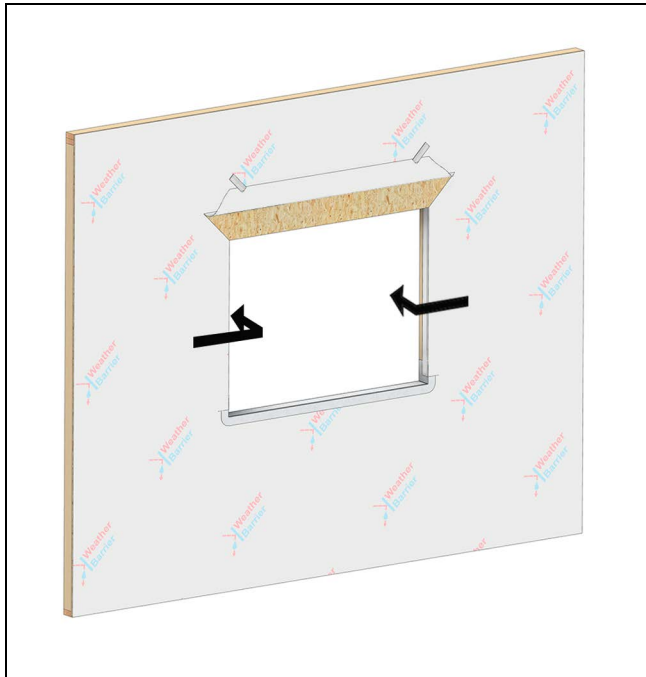

Figure 21
4. Wrap side flaps to the interior and staple in place about 1-1/2" from the interior edge of the opening. Cut the excess off near the staple so that a 1" to 1-1/2" strip of bare wood is exposed. Tape this edge with seam seal tape. See Figure 21.